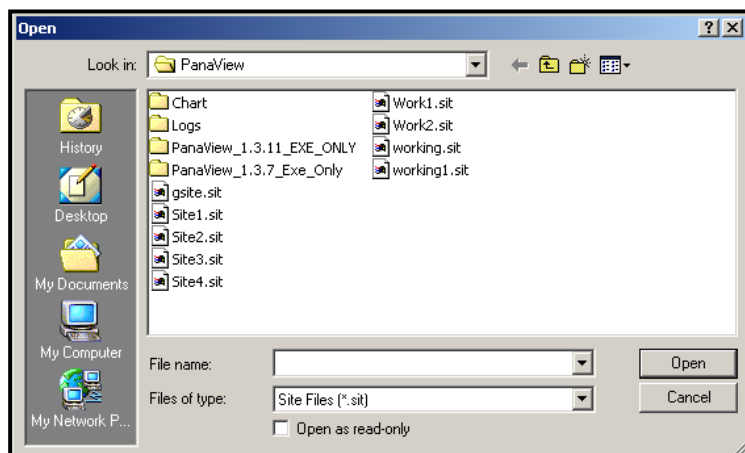

**Figure 51: The *Site File Operations* Window**
- Click on the [Site Files] button. The *Site File Operations* window (shown in Figure 51) opens.
1. Highlight the desired site in the left pane. (See Figure 51 on page 124.)
1. Highlight the site in the left pane. (See Figure 51 on page 124.)